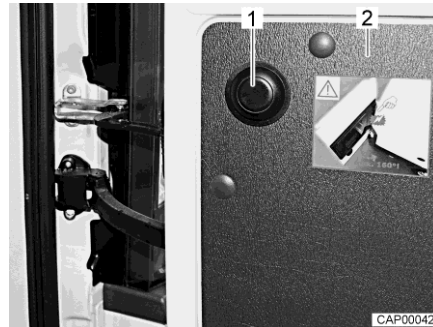

Fig. 20 Push button to release the limitation
- Open the rear door (Fig. 20,2) as far as it will go.
- Press the push button (Fig. 20,1), hold rear door and continue opening carefully.